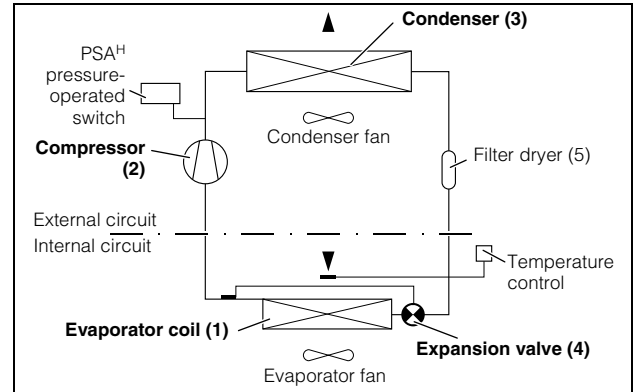

Fig. 2: Cooling circuit
The cooling unit (compression refrigeration system) is comprised of four main components (cf. Fig. 2): the evaporator (1), the coolant compressor (2), the condenser (3), and the control or expansion valve (4), which are connected by suitable pipework.